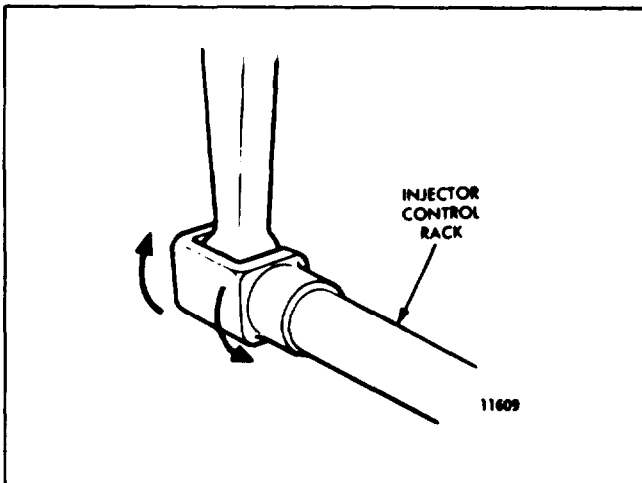
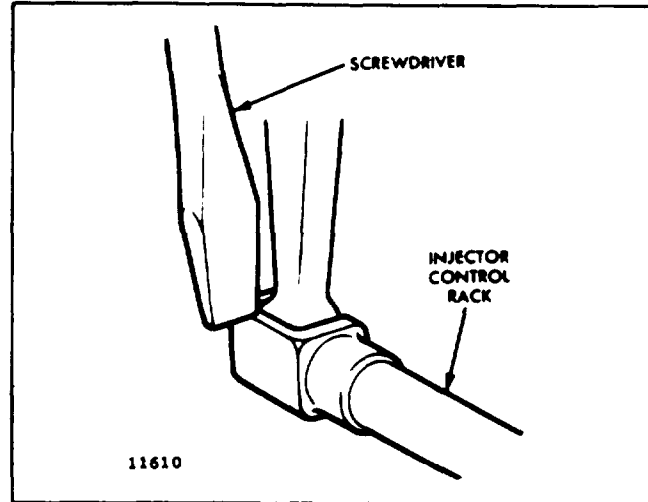

Fig. 3 - Checking Rotating Movement of Injector Control Rack
Fig. 4 - Checking Injector Control Rack "Sprint"
4. To be sure of proper rack adjustment, hold the stop lever in the RUN position and press down on the injector rack with a screw driver or finger tip and note "rotating" movement of the injector control rack (Fig. 3). Hold the stop lever in the RUN position and, using a screw driver, press downward on the injector control rack. The rack should tilt downward (Fig. 4) and, when the pressure of the screw driver is released, the control rack should "spring" back upward.